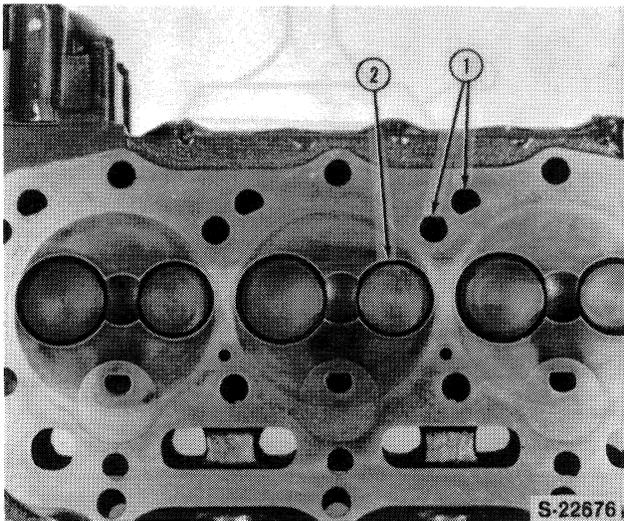

Figure 16
4. Check the head for cracks or damage, Figure 16, in the following areas: